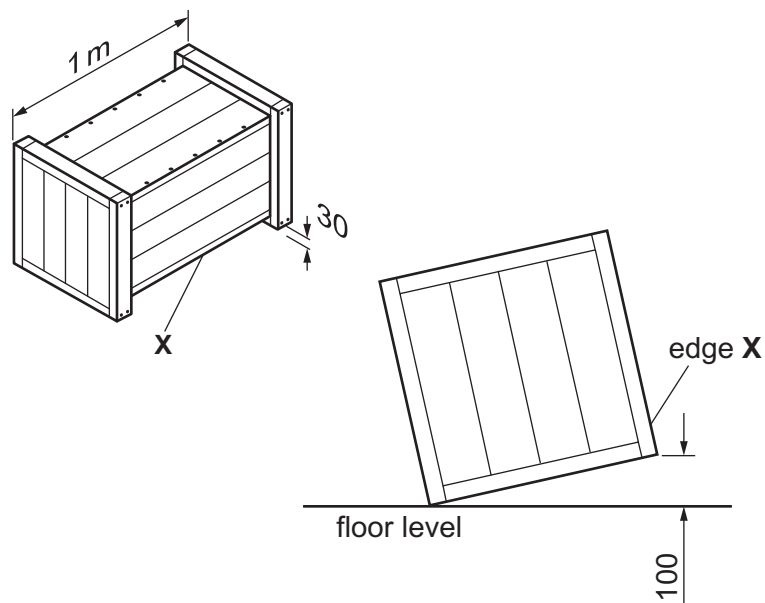

Fig. 11.3
- (c) Fig. 11.3 shows a heavy packing crate.
Draw a design on Fig. 11.3 for a lever system that will allow the edge to be lifted by 100 mm.